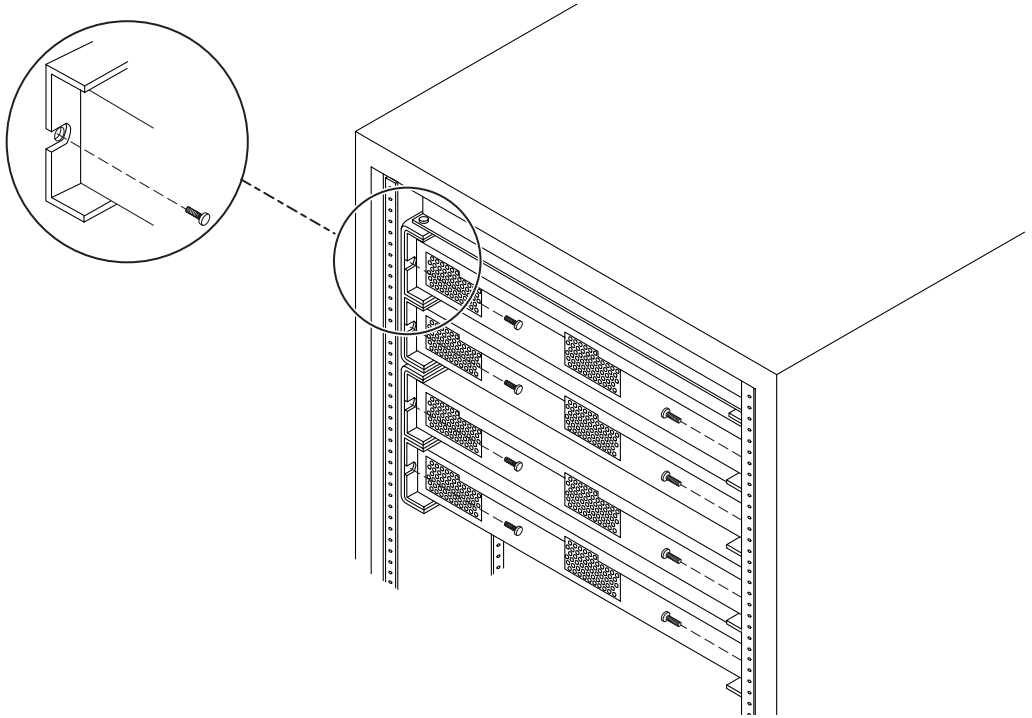

FIGURE 3-4 Installing Four 8-Port Switches Into the Mounting Rails
- 2. Insert the front lockdown screws (see FIGURE 3-4).**